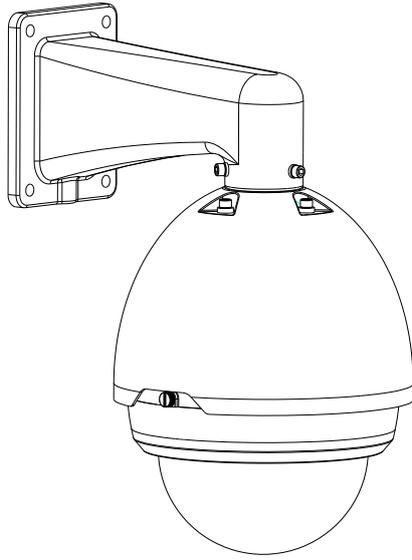

Figure 3-3
2). Install the speed dome in the bracket. Please refer to chapter 1.5 for detailed installation information. See Figure 3-3.